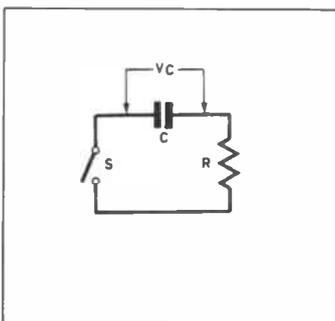
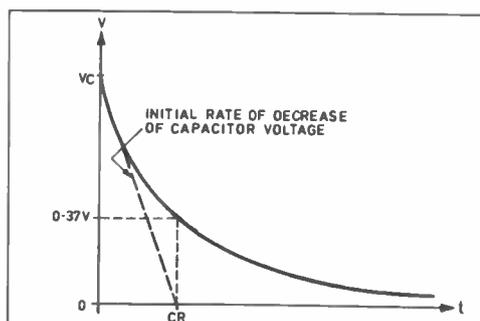

Fig. 6.6. Discharging C through R.
Fig. 6.7. The discharge curve of a capacitor through a resistor.
In Fig. 6.6 a fully charged capacitor C is abruptly switched to a resistor R; a current then flows through R until the capacitor is discharged. The initial discharge current is, as for the charging cycle, $I_0 = V/R$ and at this instant the *maximum* rate of decrease of the capacitor voltage occurs. As the voltage falls the discharge current falls and the rate of decrease follows an exponential curve as the graph of Fig. 6.7 shows. This curve has similar time constant properties and has the identical shape to that of the *current* fall during the charge cycle. The voltage across C will fall by 63% in a time equal to the time constant, that is, it falls to 0.37 of the initial voltage in that time.
- The rate of decrease of capacitor voltage is the slope or gradient of the initial discharge curve, that is, from Fig. 6.7, the initial rate of decrease of the voltage from 50V to zero would occur in a time equal to the time constant T if it went on at that rate uniformly. Hence